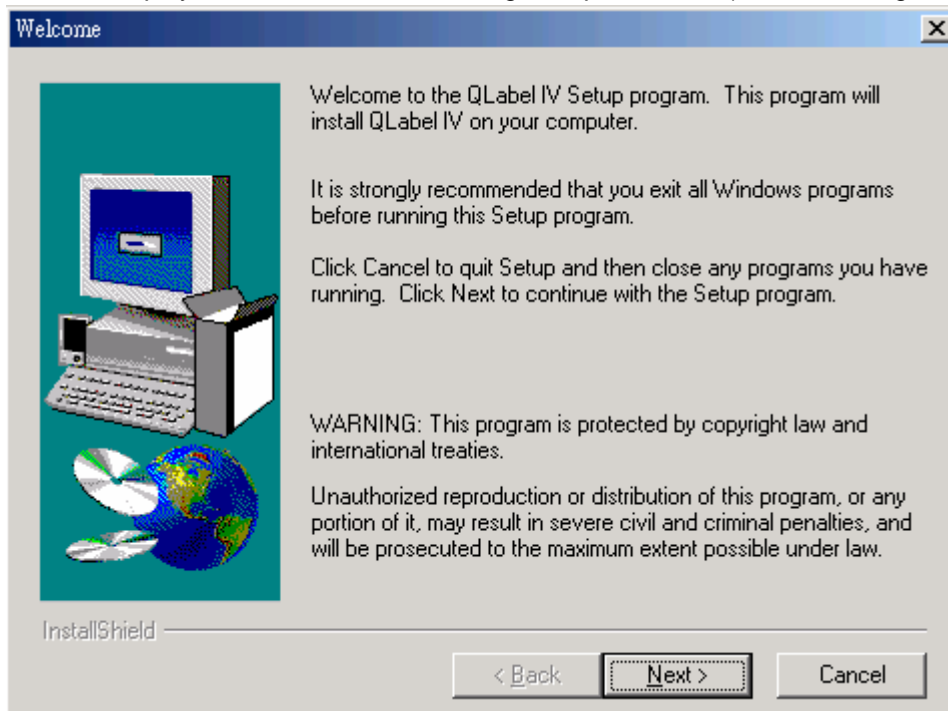

Fig.2.1
2. The first screen displayed is the WELCOME dialog box, press Next. (refer to the Fig.2.1)